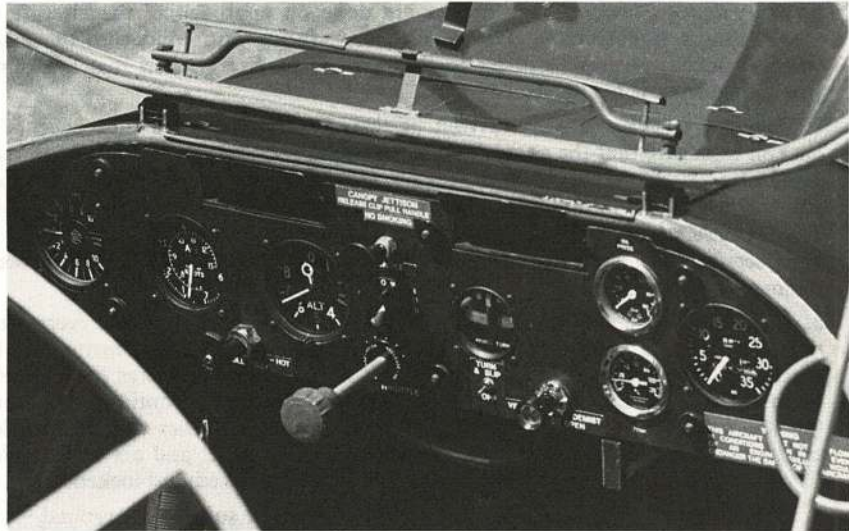

Fig 39 Instrument Panel
10. The Venture is fitted with the following flight instruments, Fig 39: